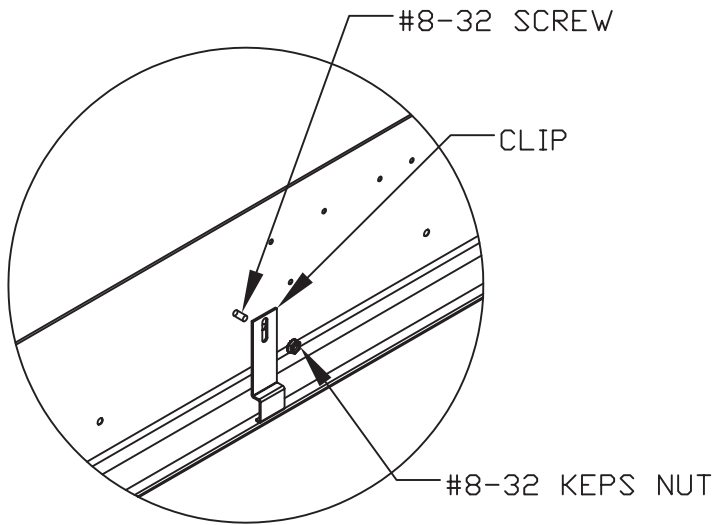

FIGURE 1
2. PLACE CLIP OVER SCREW THAT PROTRUDES FROM HOUSING AS SHOWN (FIGURE 1)